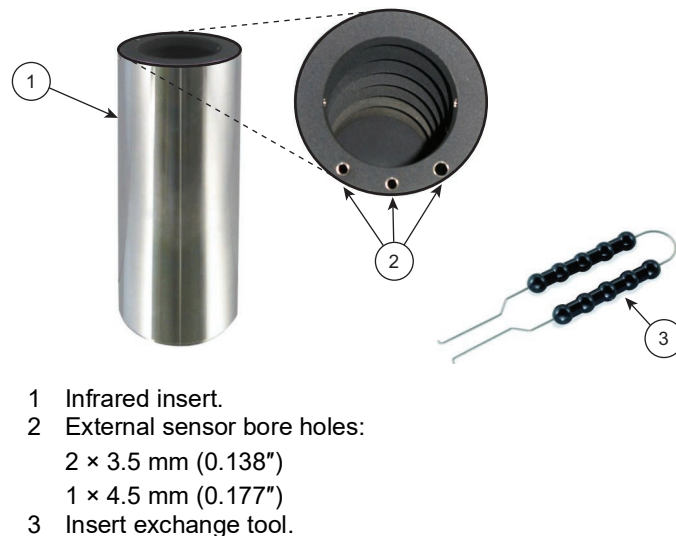

Figure 4: Infrared Insert
The additional holes in the border, see Figure 4 item 2, are for external reference sensors. This allows the exact temperature of the inside face of the infrared insert to be determined.
1. The infrared insert is inserted into the dry block using the insert exchange tool, see Figure 4 item 3.
2. Pull the infrared insert out of the dry block with the help of the insert exchange tool, see Figure 4 item 3.